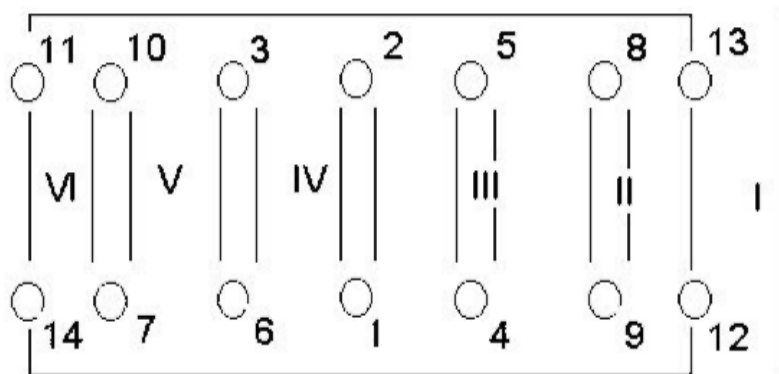

Fig.4-37 Tightening order of main bearing bolts
- (2) Press main bearing upper shells into cylinder bottom holes and clean up scraped foreign matter.
- (3) Apply clean lubricating oil on inner surface of upper bearing shell.
- (4) Clean up undersurface of cylinder block, and make sure there is no grease.
- (5) Apply sealant on undersurface of cylinder block properly.
- (6) Lift up crankshaft, and clean up oil holes with compressed air, wipe out main journal and connecting rod journal with a towel, and then drop the crankshaft into cylinder body slowly, prevent crashing the crankshaft in this process.
- (7) Clean up upper thrust plate and press it into cylinder body. Then side with oil groove should face outward (face crankshaft).
- (8) Check and make sure the oil seal is flat and free of distortion, and then place it into seal groove on cylinder undersurface with dedicated tool.
- (9) Press lower bearing shells and lower thrust plates (the side with oil groove should face crankshaft) into crankcase and assemble the crankshaft.
- (10) Apply clean lubricating oil on crankcase bolt bearing surface and main bearing bolt thread. Place main bearing bolts and pre-tighten them according to the order shown in Fig. 4-37.